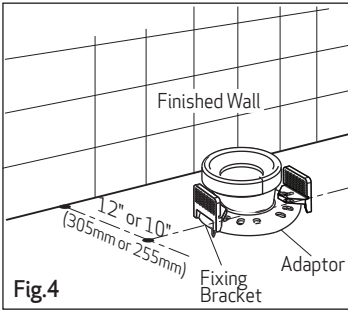

Fig.4
3. Place a fixing bracket (#687087) onto each closet bolt and hand tighten the nuts and washers onto the closet bolts as detailed in Fig.4. Apply an additional turn by wrench for final installation.